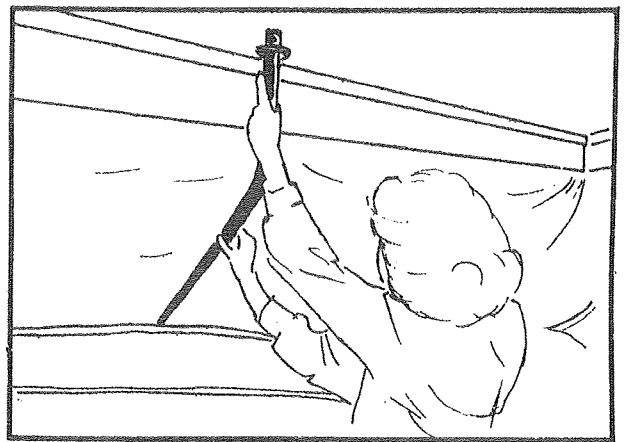

FIGURE 32
40. To complete and support the tent enclosure over the bed (front and rear), attach the bed bow support by inserting the straight end into the bed bow. Insert the rounded end of the bed bow support into the roof retainer. (See Figure 32.)
11. Detatch both front and rear bed bow supports from the roof retainer and from the bed bow. Lay the bed bow supports under each mattress. See Figure 32.